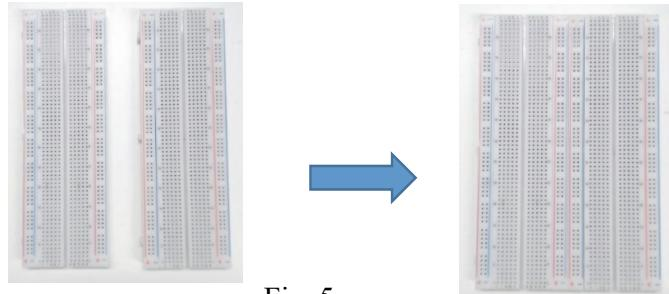

Fig. 5
- 5.2.1. Combine two breadboards as shown in Fig. 5. You could refer to the video (video3-combine\_breadboard.mp4) for demonstration.